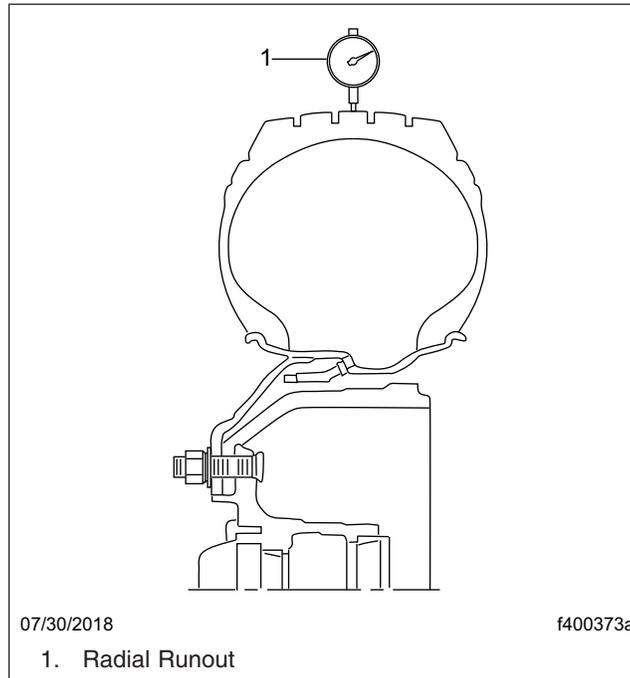

Fig. 7, Radial Runout Check for Tires
- Beginning with the right-front wheel, use a tire runout gauge to check the radial runout. See **Fig. 7**. Write down the measurement for later use to avoid vibration complaints.